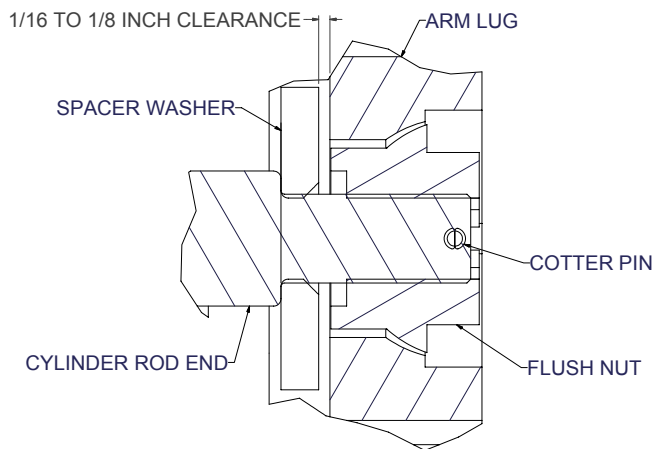

Figure 4-4, Arm Lug
3. Apply a thin coat of bearing grease to the spherical portion of the nut and concave section of the arm lug. Screw on the flush nut until it stops. Back off the flush nut while lining up the cotter pin hole in the rod with the slot in the flush nut. Clearance between the spacer washer and the arm lug should be 1/16 to 1/8 of an inch or less. **Do not tighten the flush nut tight to eliminate all clearance between spacer washer and arm lug.** (Figure 4-4)